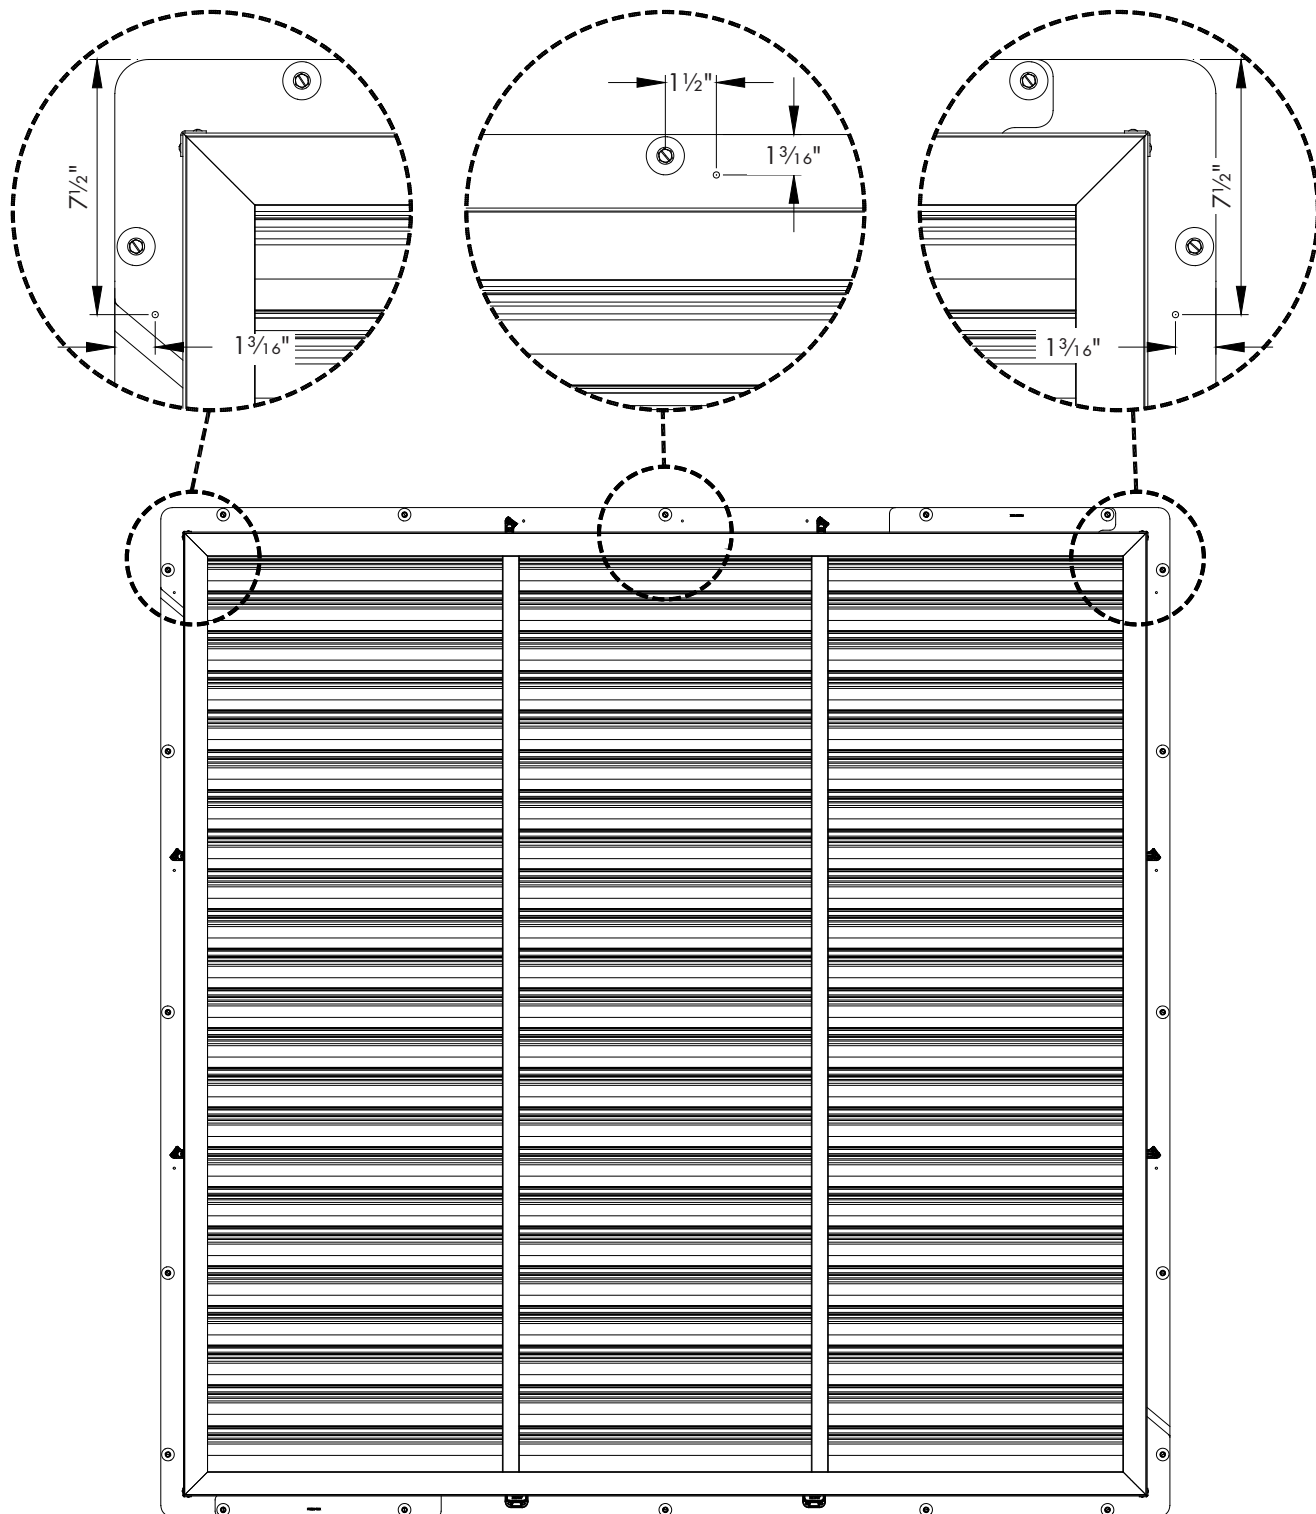

Figure 14
Drill (3) $\frac{3}{16}$ " holes in the flange of the Atlas 74 fan. One hole should be in each side flange, $1\frac{3}{16}$ " from the edge of each flange and $7\frac{1}{2}$ " from the top edge of the flange. The 3rd hole should be $1\frac{3}{16}$ " down from the top of the flange and $1\frac{1}{2}$ " to the right of the center mounting screw. See Figure 14.